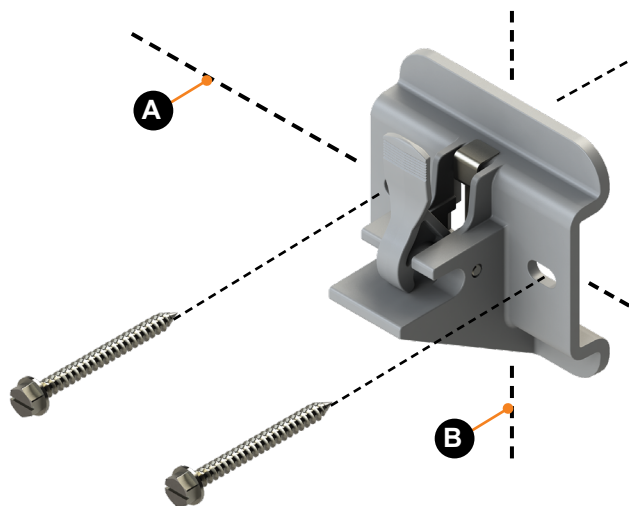

Fig.4
3. Position the bottom bracket with the fastening points at the floor line (**Fig.4**).
A. Center the bracket on the centerline mark of the support arm assembly (**Fig.4**).
D. Attach the bracket using the provided 1/4" x 2 1/2" lag screws (**Fig.4**).